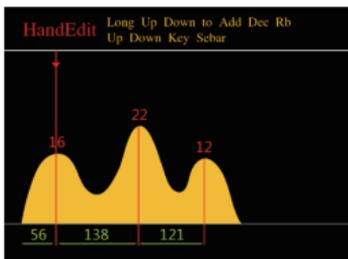

Fig. 2-18
3. Click () and () button to select the error bars quickly (as shown in Figure 2-18).